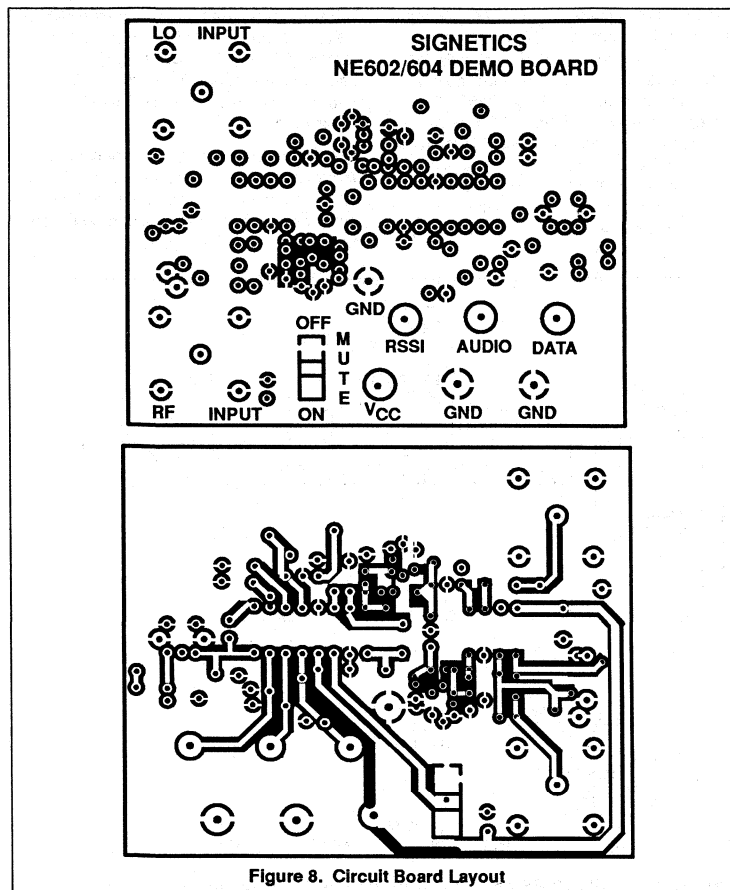

Figure 8. Circuit Board Layout
As mentioned, a single layout was used for each of the examples. The board artwork is shown in Figure 8. Special attention was given to: (1) Creating a maximum amount of ground plane with connection of the component side and solder side ground at